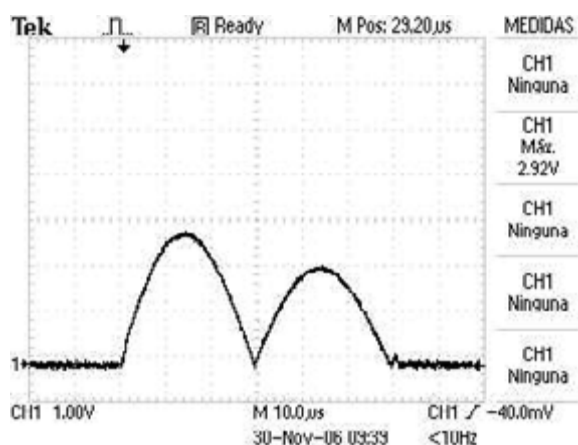

Fig. 6: Program 16
- Press the exposure switch; one resonance pulse is obtained, see (Fig. 6 / p. 58).